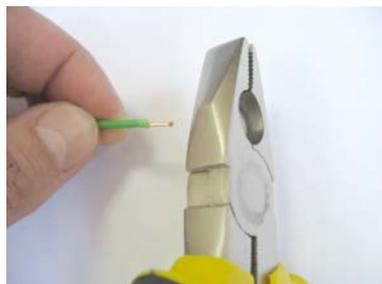

Figure 1.17 -
- Strip back 6 mm of insulation from the wire end (Figure 1.17).